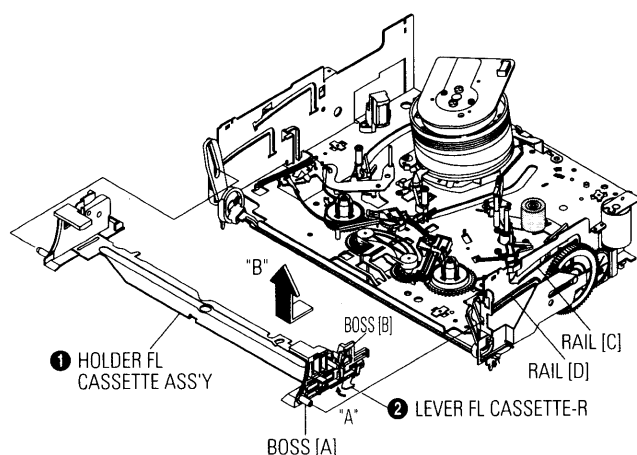

Fig. 4-11 Holder FL Cassette Ass'y Removal
- 2) Remove the Holder FL Cassette Ass'y. (Refer to Fig. 4-11)
- 3) Release the Hook ❶ in the direction of arrow "A", pull out the Lever FL Arm Ass'y ❷ from the Boss of Main Base.
- 4) Remove the Lever FL Arm Ass'y ❷ in the direction of arrow "B".